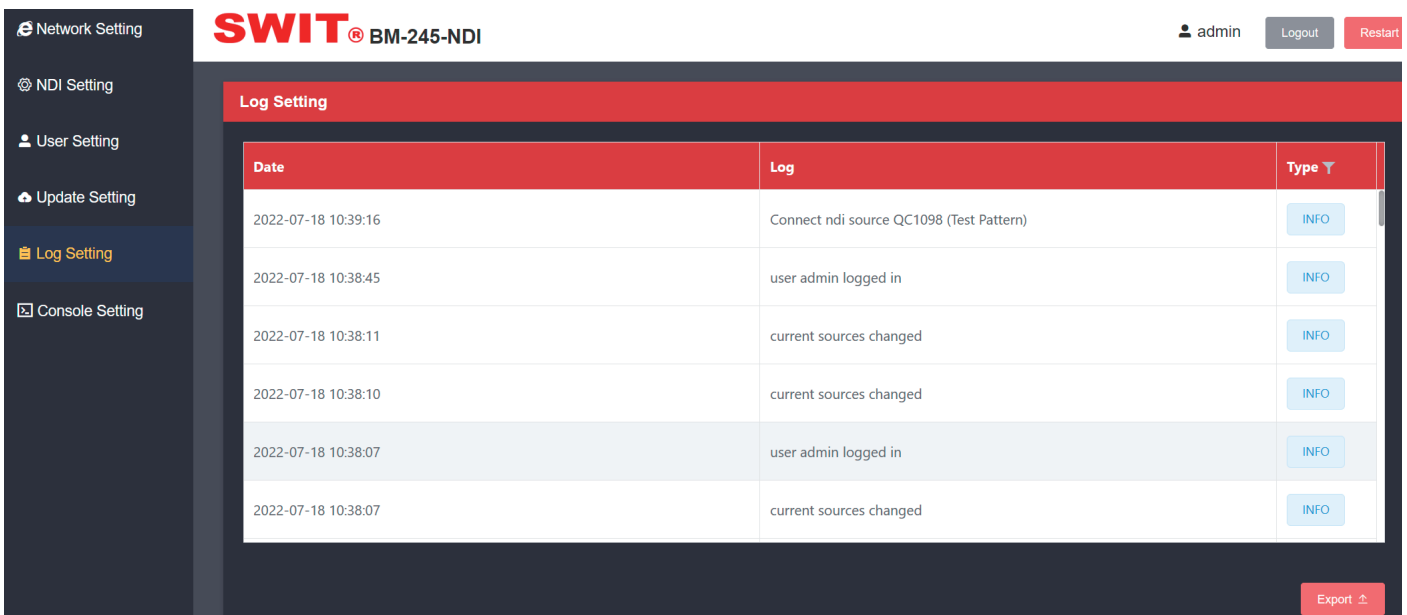

Fig.10
- All logs are displayed in the box below Log. Date is the Date of logging, Log is the Log information, and Type is the Log Type. Click Type to select a Log Type from the drop-down list box. See Fig.10 below for details.